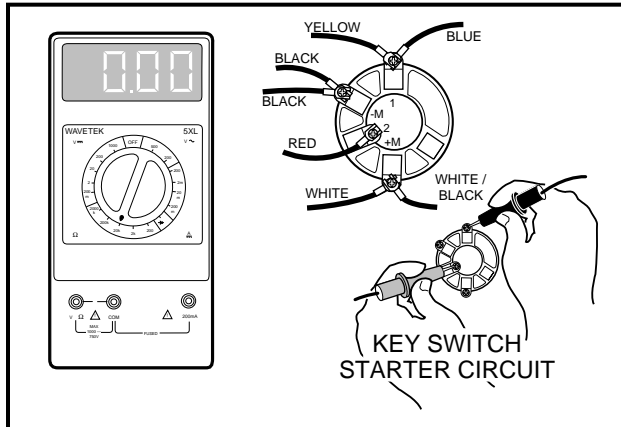

Figure 11-29 Test Key Switch – Engine Starter Circuit
4. Insert the key and turn the switch to ON. Place the red (+) probe of the multimeter on the No. 2 terminal and the black (–) probe on the No. 1 terminal of the key switch. The reading should be continuity. If the reading is incorrect, replace the key switch (**Figure 11-29, Page 11-23**).